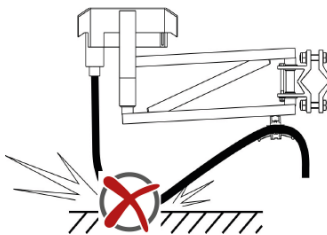
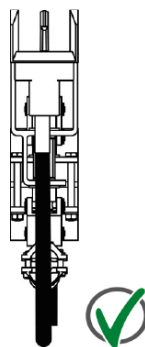

Fig. 114: The connecting cable must not be laying downward
Fig. 120: Connecting cable is not twisted
- Lead the connecting cables straightly and with high flexibility in order to avoid deflection, pulling or pressing on the sliding contacts or movement restrictions of the current collector (see Fig. 114 to Fig. 120).
- Pay attention to the selection of the connecting cable and to a correct and tension-free laying of the connecting cables (see Fig. 114 to Fig. 120).